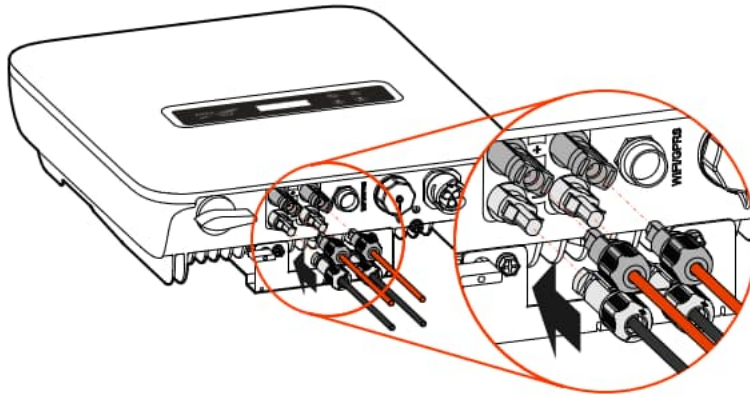

Figure3-19 Connect the DC connector
- Step 6 Insert the positive connector and negative connector to the PV + and PV – terminals (as shown in Figure3-19) and tighten them. If there has a click sound, it means that the connector have been inserted properly.